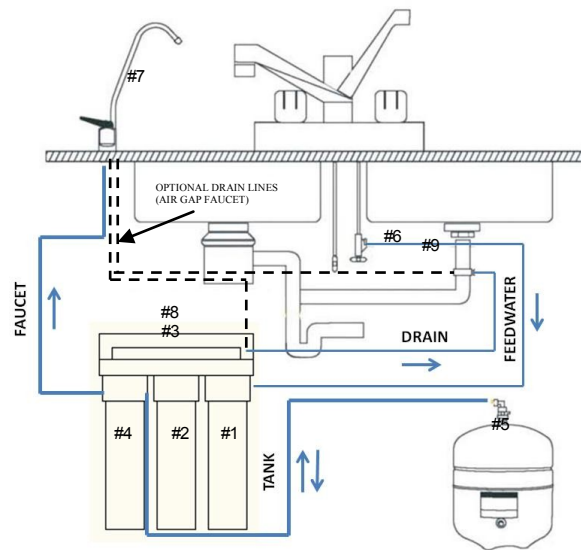

Figure 1. Typical Installation
**Drain connection** is accomplished using a waste water saddle valve which is designed to fit around a standard 1-1/2" OD drain pipe. The drain saddle valve should always be installed above (before) the trap and on the vertical or horizontal tailpiece. **Refer to Figure 1.**